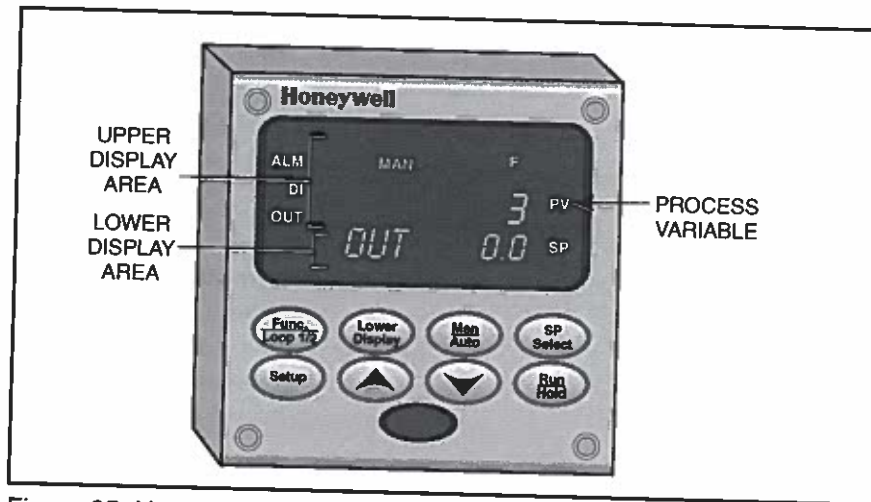

Figure 25. Honeywell Controller in the Control Mode
While in the control menu system, pressing the Lower Display key repeatedly scrolls through various parameters in the lower display area. Common display parameters found in the lower display area include the setpoint (SP) value, the deviation (DEV) of the PV from the SP, and the output (OUT) of the controller. For example, figure 25 shows the controller indicating the output in the lower display area. Diagnostic messages also appear in the lower display area.